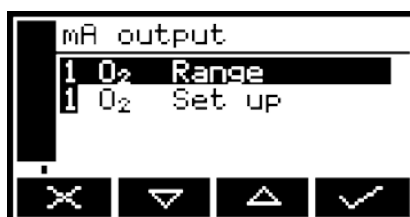

Figure 32 - The mA configuration screen
2. Use the and soft keys to highlight the "mA output" menu option, then press the soft key: the mA configuration screen is then shown (see Figure 32).
2. Use the  and  soft keys to highlight the "mA output" menu option, then press the  soft key: the mA configuration screen is then shown (see Figure 32).